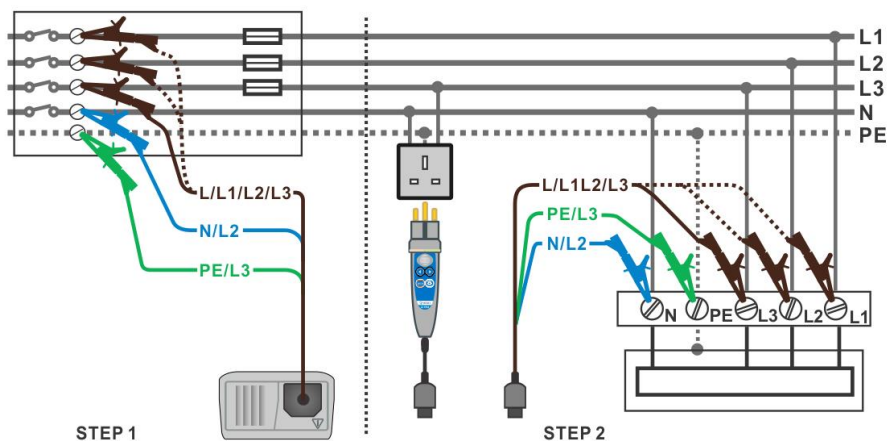

Figure 5.35: Phase-neutral or phase-phase voltage drop measurement – connection of plug commander and 3-wire test lead
- **Connect** the test leads to the origin of electrical installation (see figure 5.35).
- **Connect** the test leads to the tested points (see figure 5.35).